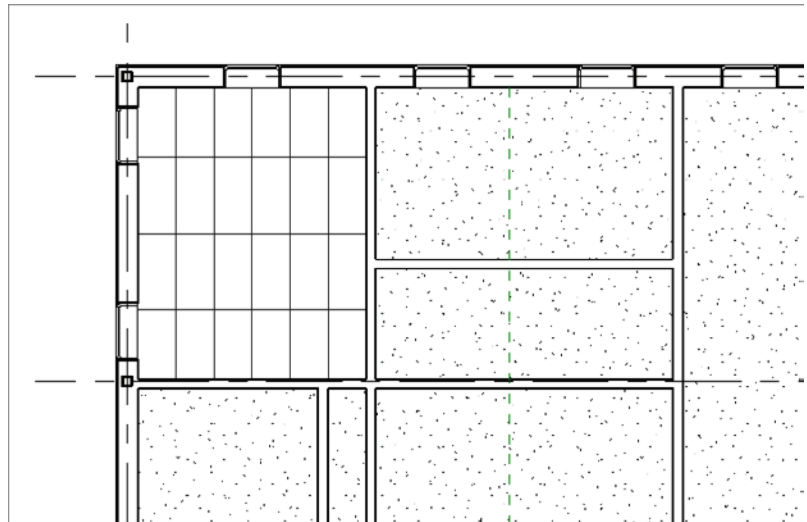

FIGURE 9.5 Placing the 2×4 tiled ceiling
6. When you see the red outline, pick a point in the middle of the room. Your ceiling should now look like Figure 9.5.